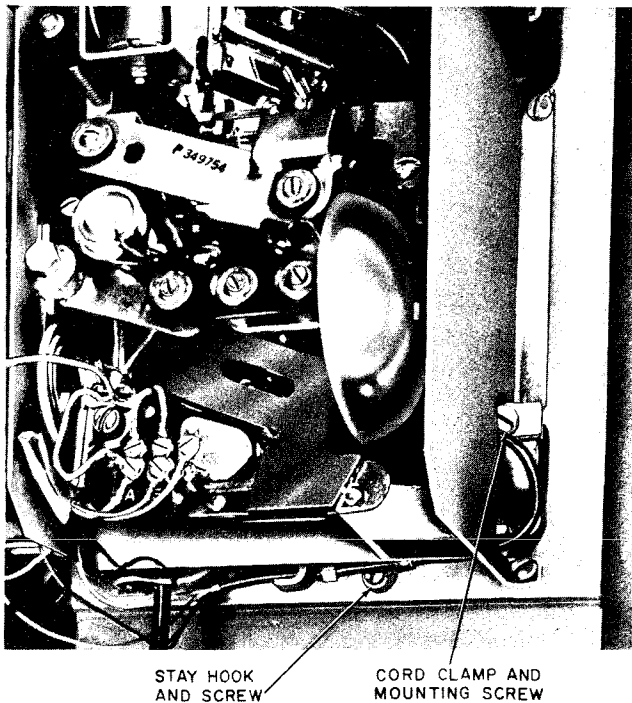

Fig. 31—Location of Armored Cord Mounting Hardware in 2A, 235, and 1235-Type Coin Telephones
- 3.40 Refer to Fig. 31 for routing and securing handset cord in 2A-, 235-, and 1235-type coin telephones.